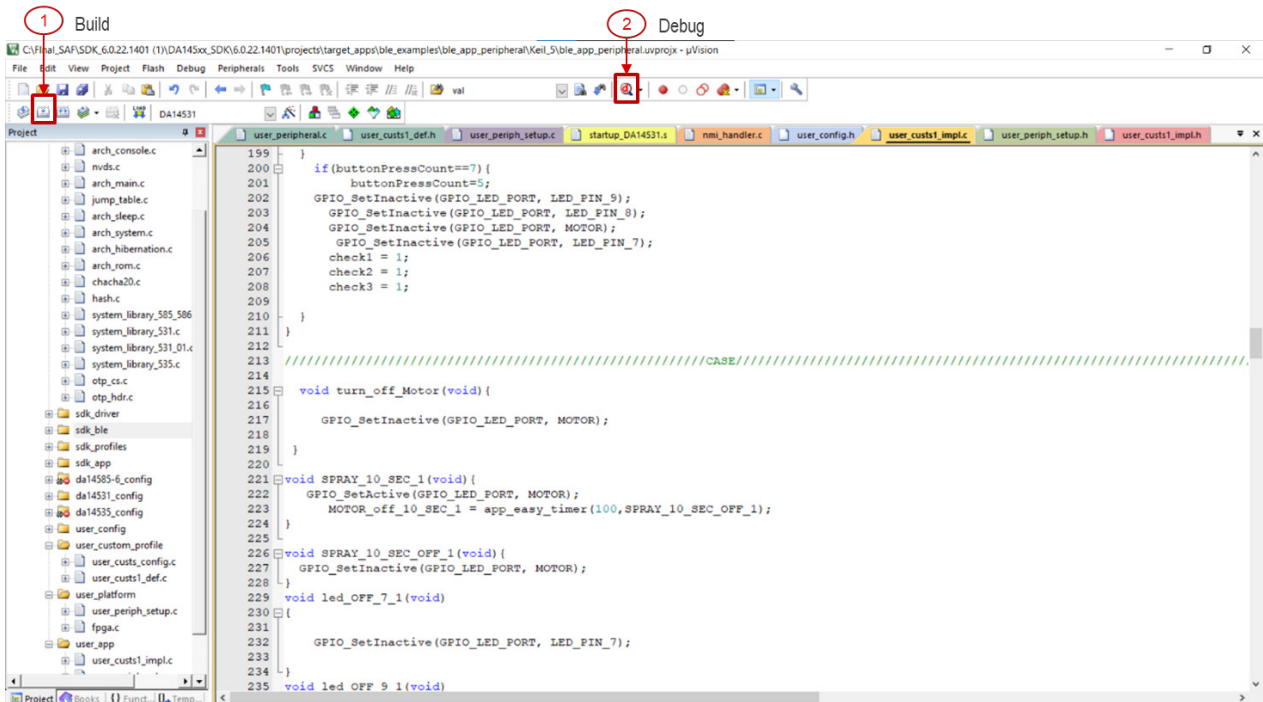

Figure 14. Build and Debug the Project
2. When the project opens, click on the build icon (see Figure 14, item 1) or press F7 to build the project. Once the build is successful, click on the eye icon (see Figure 14, item 2) or press F5 to download the project.